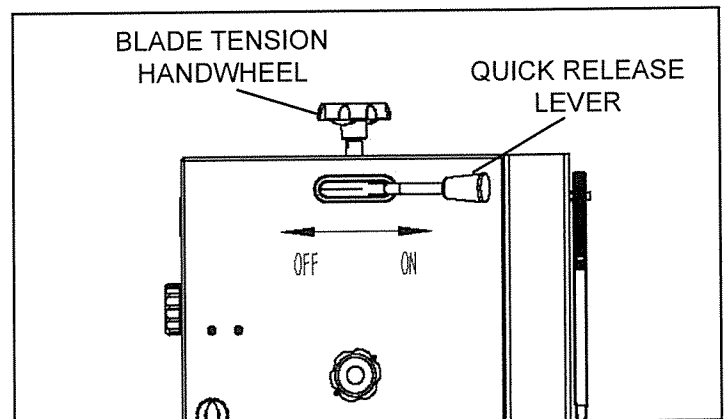

FIGURE 14
1. To adjust the blade tension, turn the Blade Tension Handwheel (#1D) on the top of the saw. FIG. 14.
4. Release the blade tension by moving the quick release Tension Lever from right to left. FIG. 14.
5. Remove the saw blade from the top wheel then feed it through the upper blade guides, slot in the table, lower blade guides, out of the left slot in the column of the machine (D), and off of the bottom wheel.
6. When installing the new blade, reverse the steps in item 6 above. Ensure that the blade teeth are pointing downwards and towards you at the position where the blade passes through the table.
8. Re-tension the new blade by moving the quick release lever back to the ON position, FIG. 14, and check the blade tracking. The blade should run in the center of the wheels. Refer to "Tracking the Saw Blade" on page 13 for details.